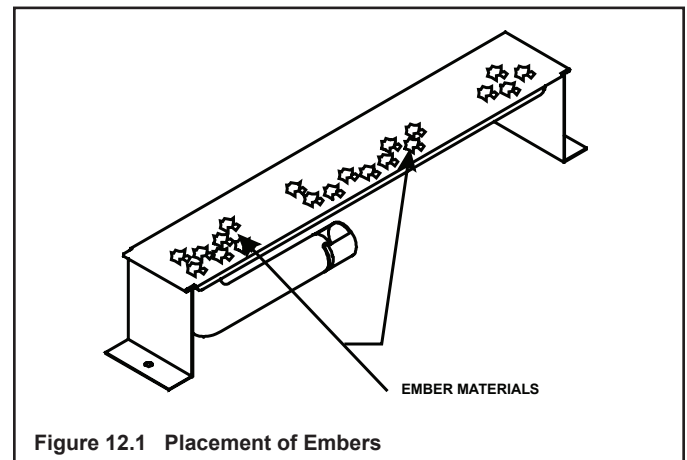

Figure 12.1 Placement of Embers
- When placing Glowing Embers® onto the burner care should be taken so that the ports are not covered. Place the dime-size ember pieces near the port holes in the burner top (see Figure 12.1). Failure to follow this procedure will likely cause lighting and sooting problems.